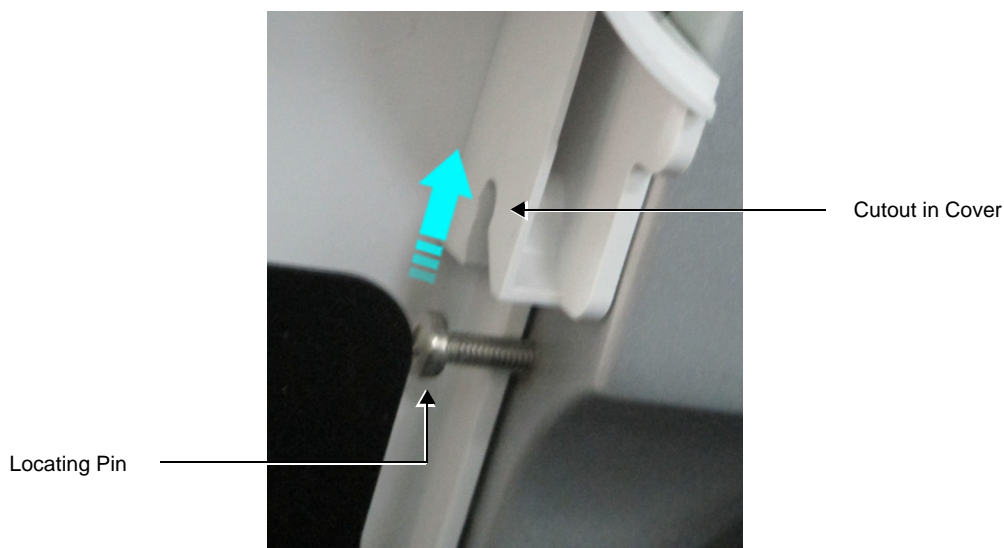

Figure 8-18 Releasing Top of Cover from Locating Pin
- 5) Lift the cover *upwards* and carefully release the top of cover from the locating pin on the side of the mechanical platform (shown in Figure 8-18).
- 2) Make sure the cutout in the cover is properly aligned with the locating pin (Figure 8-18) then push the cover *downwards* to secure it in position.
- 4) Lift the cover *upwards* and carefully release the top of cover from the locating pin on the side of the mechanical platform (shown in Figure 8-18).